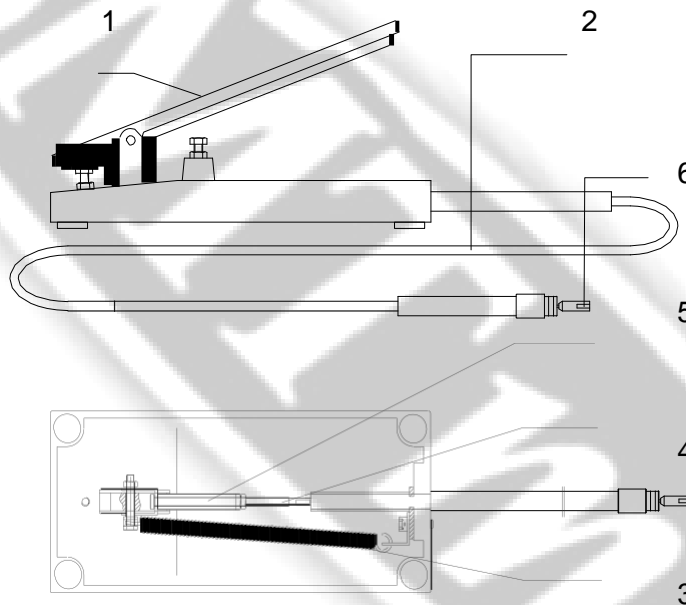

Fig. 9 Foot Pedal and Dragline Configuration
As Fig. 9 shows, Foot Pedal consists of pedal (1) and soleplate (2). There is Pintle (3) linking between pedal (1) and soleplate (2), and it links Dragline (4) from outside of soleplate. spring (5) banking screw (6) and long nut (7) installed under soleplate, which can eliminate free play of draglines by adjusting the position of the dragline head (8) through regulation of screw and long nut. When Foot Pedal is pressed down, the electrode can be moved at the same time. The dragline head is connected with the pulling pole inside the Header through a small countersunk head screw as an articulated typed link, so as to transfer motive power to the Header.